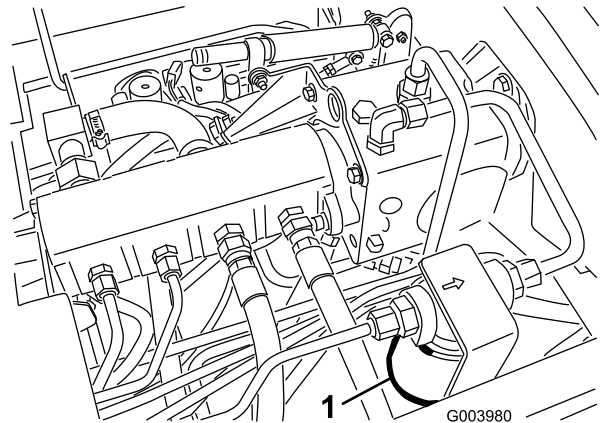
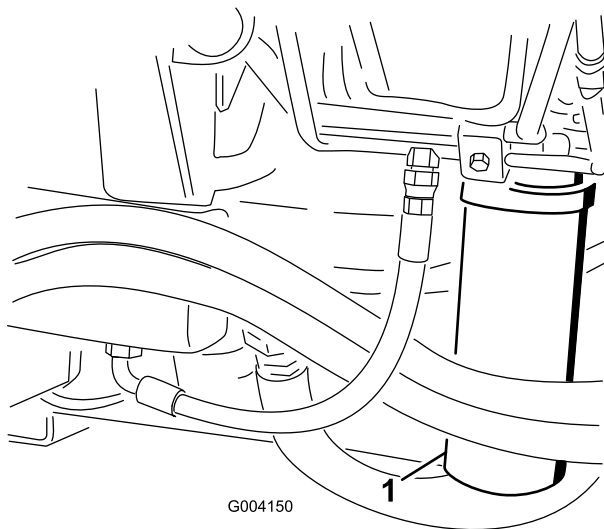

Figure 70
Figure 71
2. Clean the area around the filter mounting area and place a drain pan under filter (Figure 70) and (Figure 71).